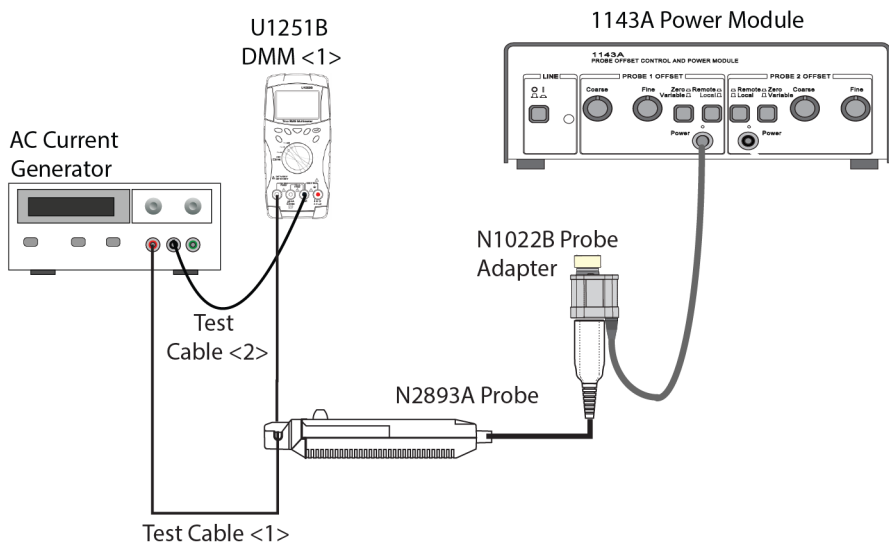

Figure 8 Setting up AC Current Generator
- 4 Connect the test setup as shown in Figure 8 on page 19 as per the following substeps.